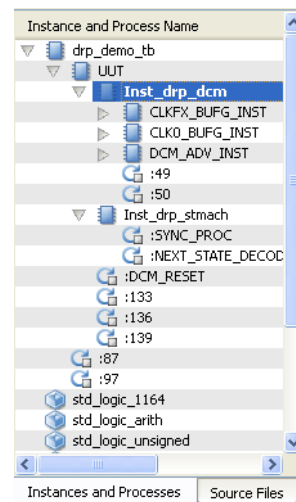

Figure 4-19: Instance and Process Panel
1. In the Instance and Process panel, expand the hierarchy by clicking once to the left of each child module (refer to Figure 4-19).